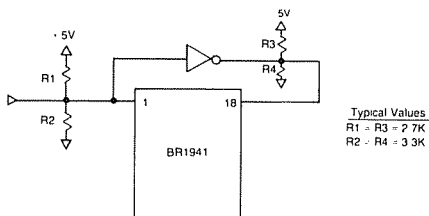

Figure 4 PULL-UP/PULL-DOWN RESISTORS TO MATCH IMPEDANCE
2. Add pull-up/pull-down resistor to match impedance, as shown in Figure 4.